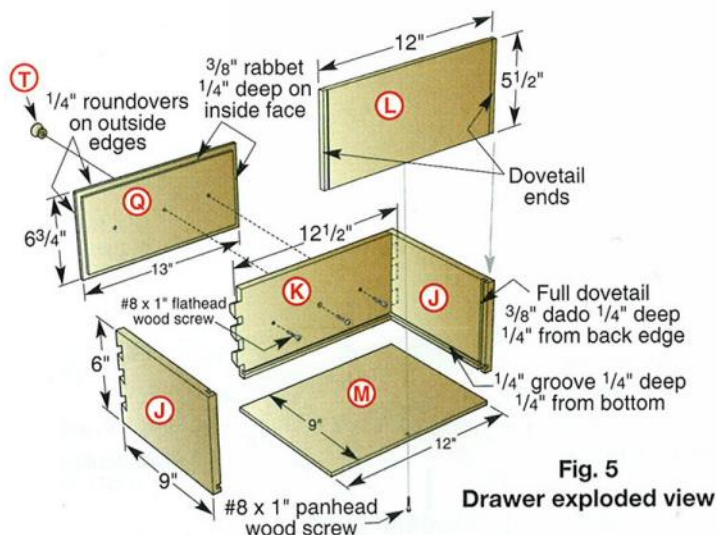

Fig. 5
3 ROUT $\frac{1}{4}$ " GROOVES IN THE DRAWER SIDES (J) AND FRONTS (K, N) as shown in **Figure 5**. Cut the dovetails as shown in **Photo E**. (For dovetail-cutting info, check out Rob Cosman's story on page 60. For a simpler alternative, rout a $\frac{1}{4}$ x $\frac{1}{4}$ " rabbet and assemble the drawer with glue and nails.)
4 ATTACH THE DRAWER BACKS (L, O) TO THE DRAWER SIDES (J). For the full-sliding dovetail shown in **Figure 5**, chuck a $\frac{1}{4}$ " dovetail bit into your table-mounted router. Set the bit for $\frac{1}{4}$ "-deep cut and rout a through dado through the inside faces of all six sides (J). Adjust the fence to rout the dovetailed ends of the backs. (This setup is just like shelves, except here you're routing both faces of the board.)
6 RIP AND CROSSCUT THE DRAWER BOTTOMS (M, P) from $\frac{1}{4}$ "-thick plywood. Referring to **Figure 5**, glue the $\frac{1}{4}$ "-thick bottoms (M, P) into the drawer grooves and then drive screws into the bottom edges of the drawer backs (L, O).